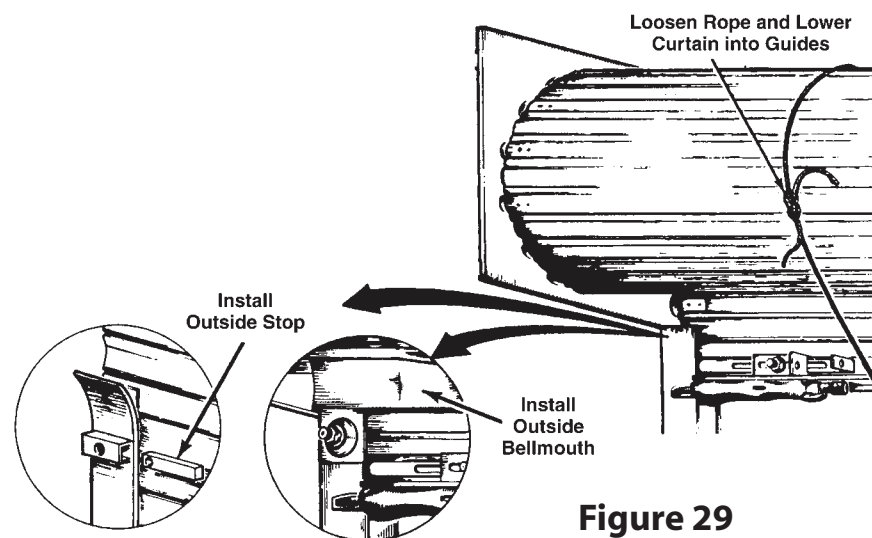

Figure 29
- If the door uses bellmouths: Install inside bellmouths and attach locking pliers approximately 4" below entrance to both LH and RH guides as shown in Figure 29.
- Install outside stops. See Figure 29 for flared guides and for guides with bellmouths.